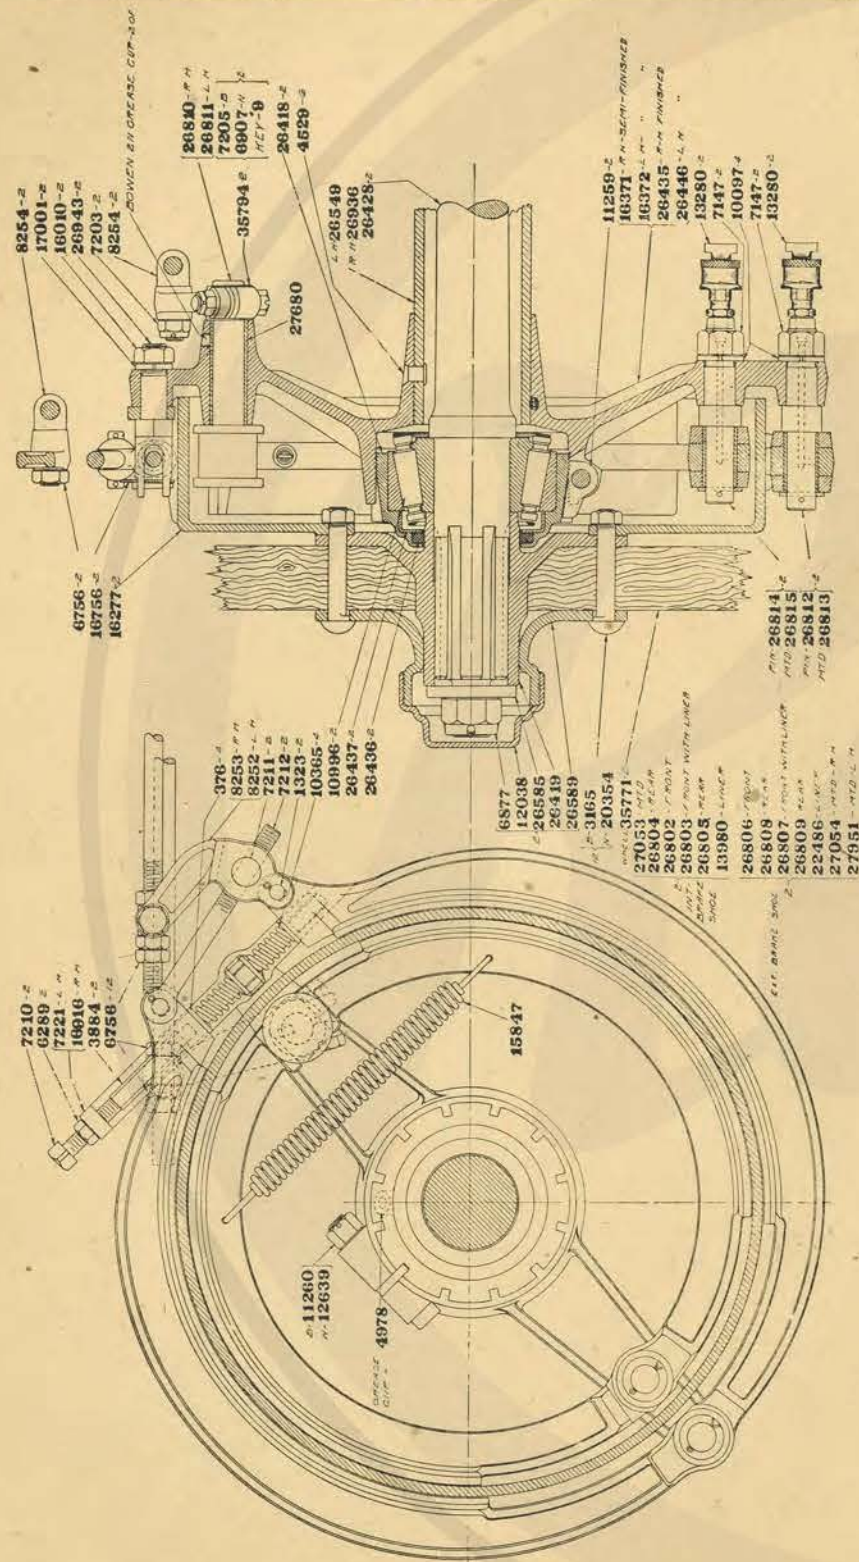

Fig. 22. Arrangement of Brakes.
18. Figure 22 illustrates just how the connections should be made. The charge should be continued until all the cells have been gasing or bubbling freely for five hours and there is no further rise in the voltage of the battery or specific gravity of the electrolyte over the same period.
THE BRAKES.—(Fig. 22).—Both the foot brake and emergency hand brake operate directly on the rear wheels. The foot brake is of the internal expanding type; the hand brake, external contracting. The external brake shoes are lined with woven asbestos strips. The internal shoes are lined with a special bronze.